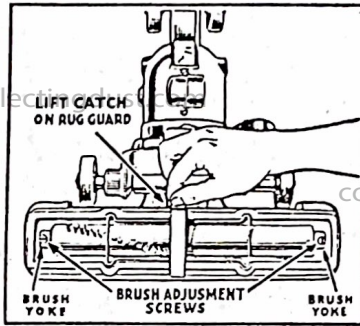

Fig. 2
**To Install New Brush Belt** Remove rug guard. (See Fig. 2.) Pull one end of the brush out of the nozzle by grasping bristles and pulling upward. Slide new belt over the raised end of the brush until it is over the pulley on the brush spindle. Then replace the end of the brush which has been pulled out. Replace rug guard. To attach belt to motor pulley see next paragraph following.
**To Take Up Brush Bristle Wear** As the brush wears it will be necessary to lower it to regain sweeping efficiency. This can be accomplished by turning the brush adjustment screws indicated in Fig. 2 in a counter clockwise direction, using a screw driver. One complete turn of each screw will lower the brush sufficiently each time adjustment is necessary. Be sure the brush is lowered exactly the same amount at each end to insure even adjustment and even sweeping action.
**Keep Brush Clean** Do not permit the brush in the floor nozzle to become matted with threads and hair. Some of this litter may wrap around the brush. Clean the brush with a piece of old comb. The wire rug guard can be removed by pulling up the catch at the back (See Fig. 2) to permit easier cleaning of the brush. Remove any collection of hair or thread found around the yokes at either end of the brush. Be sure to replace rug guard after cleaning the brush and make certain that the catch on the rug guard is in position at the back of the nozzle.